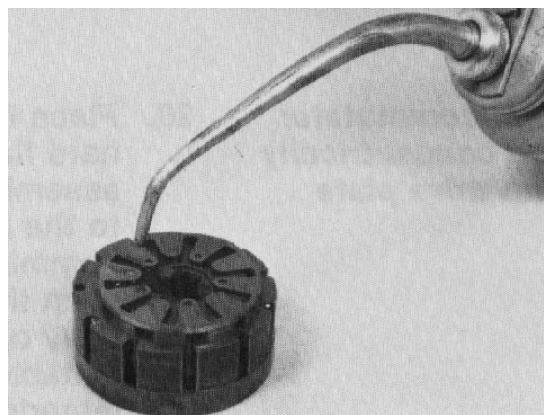

Figure 77
15. Put a few drops of oil into each recess in the commutator (Fig. 77).